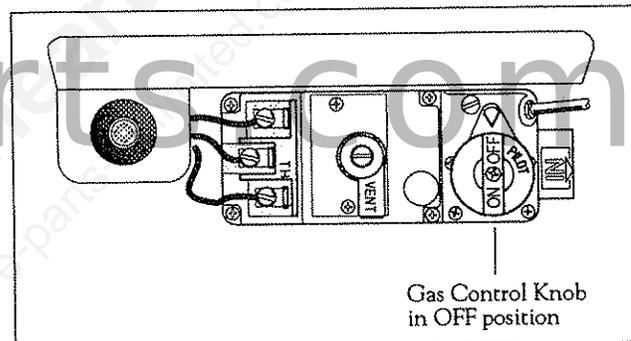

Fig. 2. Gas Control Valve / "OFF"
Step 1. Before lighting the pilot, make sure that the valve is in the "OFF" position by pushing in the gas control knob slightly and turning it clockwise to "OFF." Fig. 2.